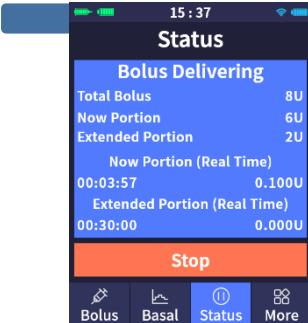

Figure 15.6
(3) After the now portion and extended time settings are completed. Click "Start", the insulin pump controller will send a delivery instruction to the insulin pump and the pump will start delivery. The interface will display the progress of the extended bolus delivery (as shown in Figure 15.6).
(4) During the extended bolus delivery, if you find that the setting is wrong or the meal is interrupted or the food of the meal changes, you need to stop the ongoing extended bolus delivery.
Click "Stop" in the status interface (as shown in Figure 15.6), then click "ACT" in the pop-up confirmation interface to stop the delivery, or click "ESC" to continue the delivery.